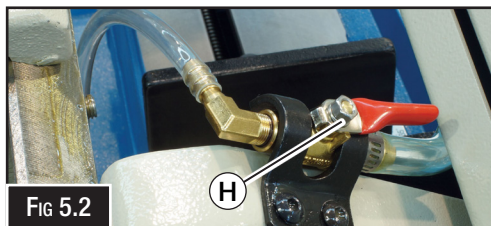

FIG 5.2
- H. **Coolant Shut Off Valve:** This valve controls the flow of the coolant. (Fig. 5.2)